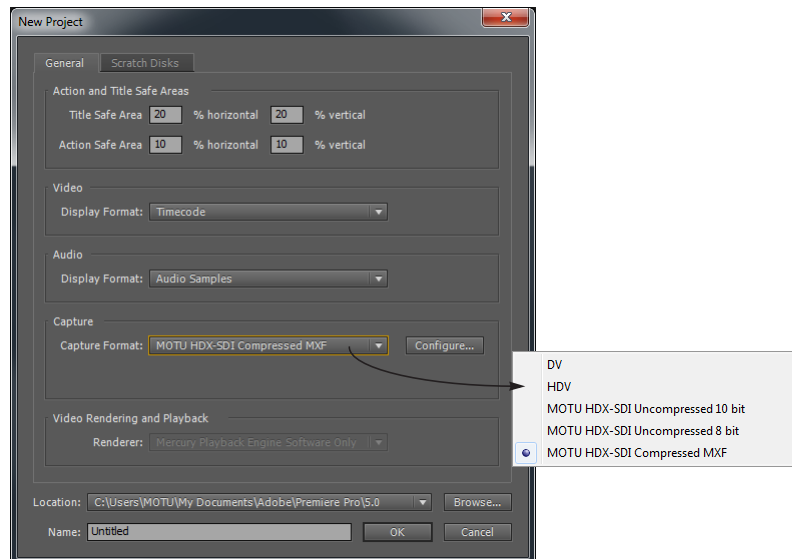

Figure 7-1: Creating a new project in Premiere Pro.
- 2 When the Welcome screen appears, click New Project and choose the desired Capture Compression Codec from the Capture Format menu (Figure 7-1).